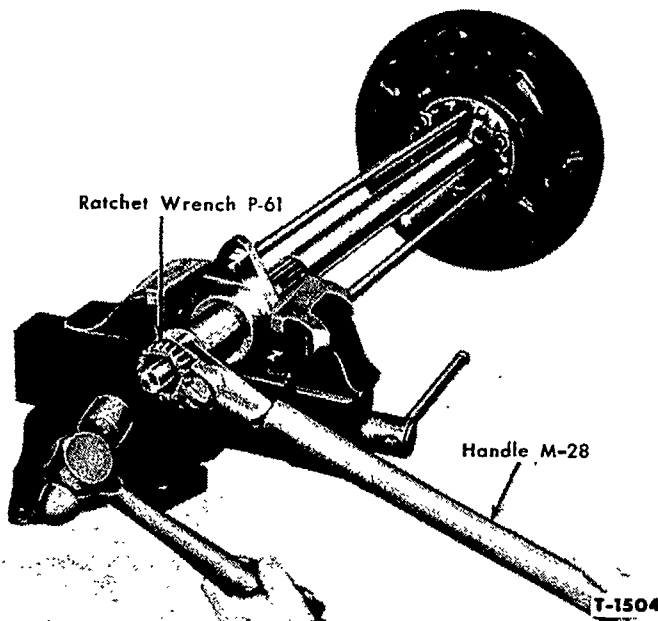

Figure 4—Pushing Axle Shaft Out of Bearing
- Turn the fixture screw clockwise and at the same time, strike the head of the screw sharply with a hammer to break the bearing loose, Figure 4. Remove the axle shaft and brake plate.